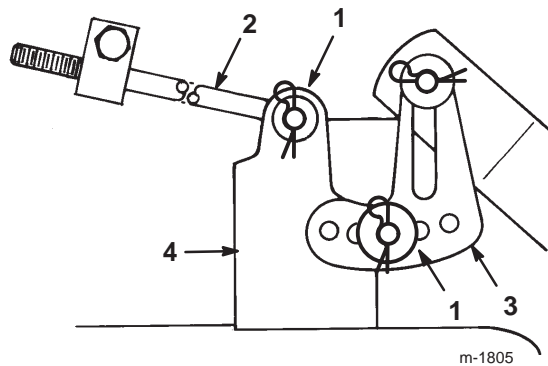

Figure 48
- Remove the hairpin cotter and washer from the leveling bracket (Fig. 48).
- Position the leveling bracket in a different hole and install the washer and hairpin cotter (Fig. 48).